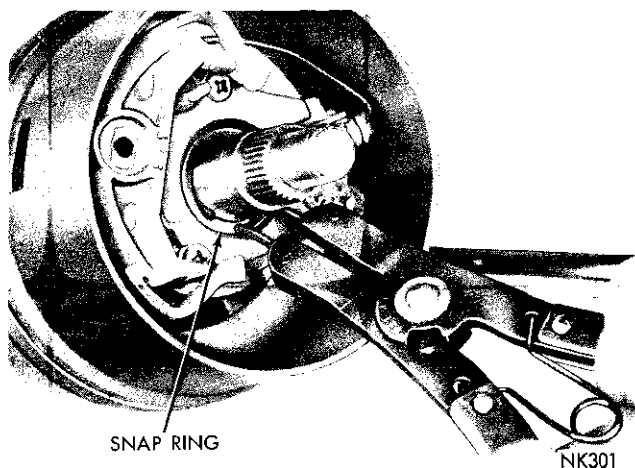
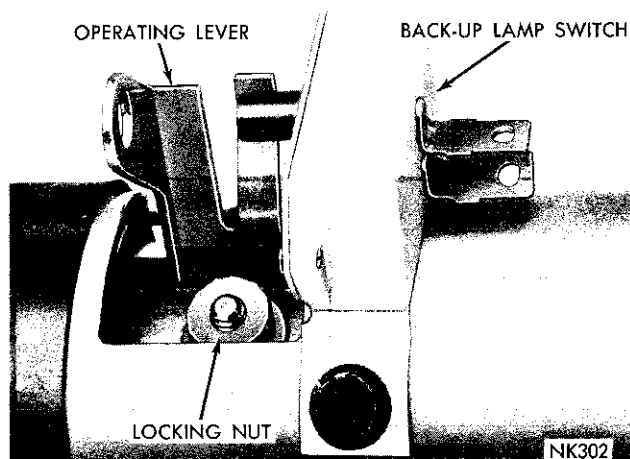

Fig. 5—Removing or Installing Steering Shaft Snap Ring
Fig. 6—Back-Up Lamp Switch and Operating Lever
(1) Remove the snap ring from upper end of the steering shaft (Fig. 5).
(2) Tap the steering shaft downward through the upper column bearing, then remove the shaft and lower bearing from the column.
(3) Remove the back-up lamp switch (Fig. 6). Loosen the locking nut on the operating lever, then slide the lever out of the groove on the gearshift tube.
(14) Position the turn signal switch in the bearing housing, install switch retainer plate, and secure with the three screws (Fig. 5).
(15) Slide the steering shaft and lower bearing assembly in the column. Tap the shaft through the upper bearing, then install the snap ring (Fig. 5).
(16) Place the gearshift lever in the NEUTRAL position and slide the back-up switch operating lever in the groove provided in the gearshift tube, then tighten the locking nut (Fig. 6). Install and adjust the switch so the actuator arm is snug against the operating lever, then tighten the switch retaining screws.